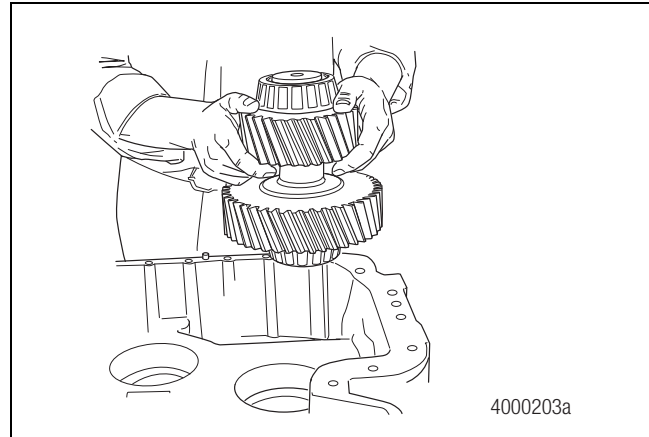

Figure 6.15
- With the inside of the front case facing UPWARD, install the single idler shaft (MTC-4213X only), or rear output shaft (MTC-4208X/XP/XL/XLEV and MTC-4210X/XP/XL/XLEV), and double-gear idler shaft assemblies (all models). Figure 6.15.